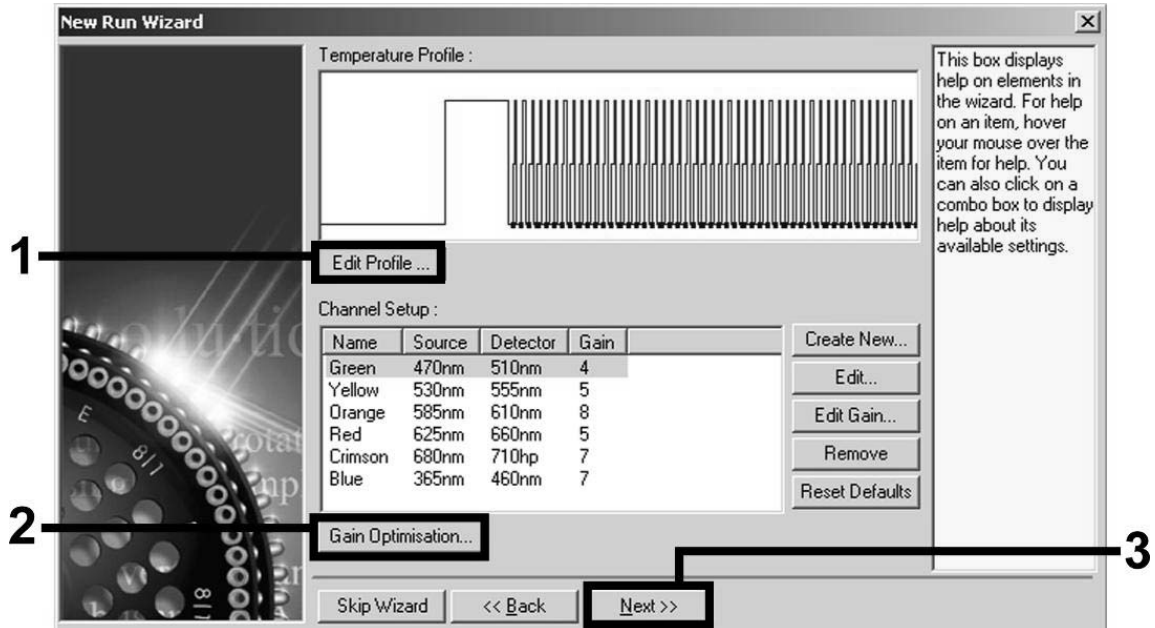
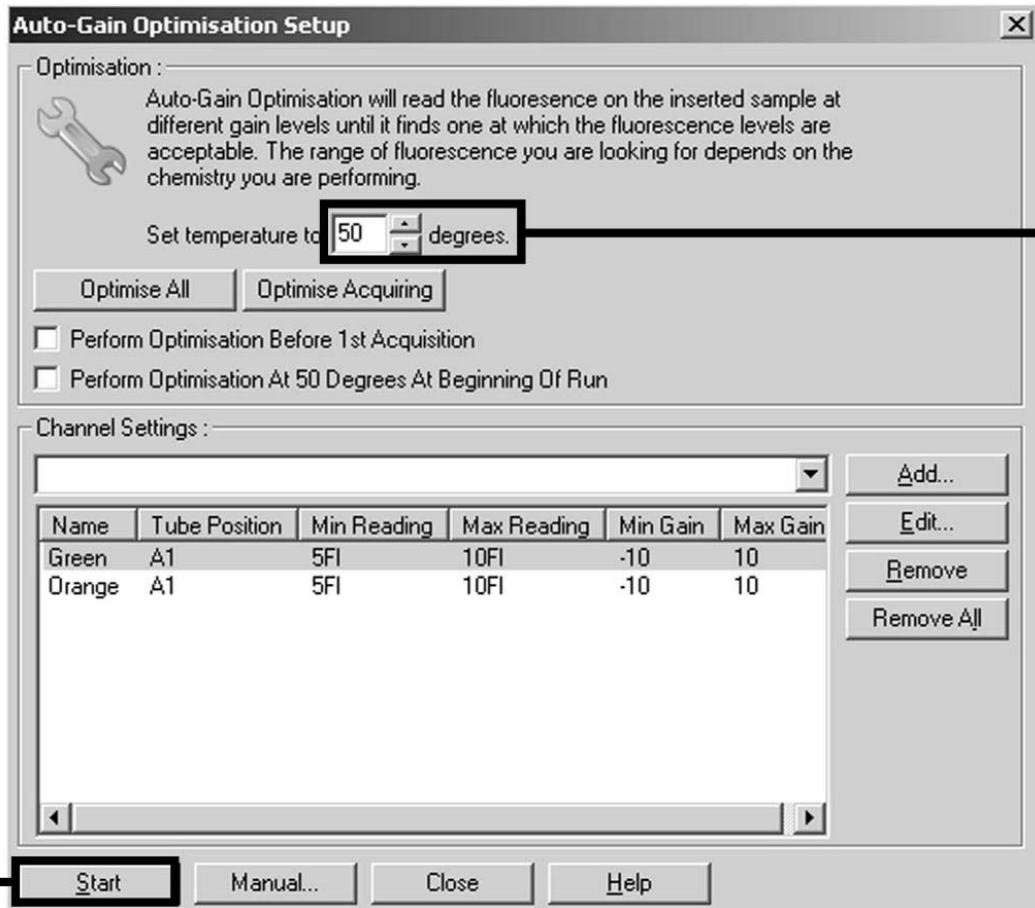

Figure 7. Editing the profile.
Figure 11. Adjusting the fluorescence channel sensitivity.
Adjusting the fluorescence channel sensitivity	Figure 11
- Click the “Edit Profile” button in the next “New Run Wizard” dialog box (Figure 7), and program the temperature profile as shown in Figures 7–10).
7. The detection range of the fluorescence channels has to be determined according to the fluorescence intensities in the PCR tubes. Click "Gain Optimisation" in the "New Run Wizard" dialog box (see Figure 7) to open the "Auto-Gain Optimisation Setup" dialog box. Set the calibration temperature to 50 to match the annealing temperature of the amplification program (Figure 11).